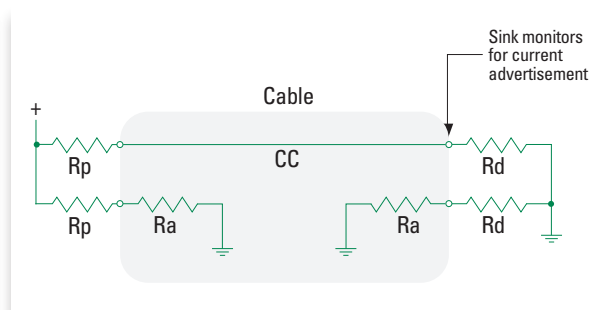

Figure A2. Sink monitoring for current in pull-up/pull-down CC model
2. The Source provides a voltage Source with 5 V and a pull-up resistor (R_P) as shown in Figure A2.
3. The Source provides a voltage Source with 3.3 V and a pull-up resistor (R_P) as seen in Figure A2.